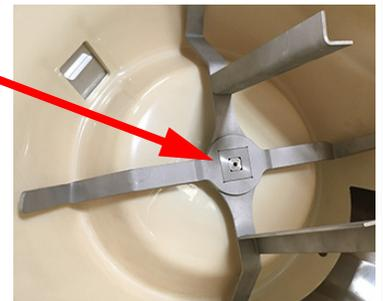

Figure 7 - Two-piece Agitator Assembly
- Two-piece Agitator Assembly:** Place the bottom agitator component over the spindle, then, place the top agitator component in place over the bottom agitator. Make sure the agitator assembly is seated properly (see Figure 5 and Figure 7).